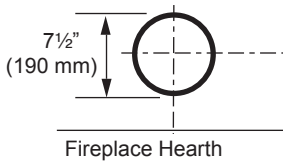

Figure 26 - Locate Vent Opening on Wall
Locate vent opening on the wall. It may be necessary to first position the fireplace and measure to obtain hole location. Depending on whether the wall is combustible or noncombustible, cut opening to size. *Figure 26* (For combustible walls first frame in opening.)
Combustible Walls: Cut a 9 5/8" H x 9 3/8" W (244 x 244 mm) hole through the exterior wall and frame as shown. *Figure 26*
1. Establish vent hole through the wall. *Page 22, Figure 26*